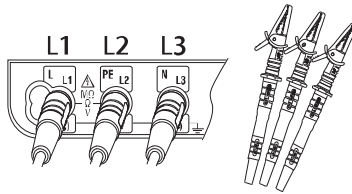

Fig. 46
- ▲ If earth resistance of auxiliary earth spikes is too large, it may result in inaccurate measurement. Make sure to stick the auxiliary earth spike and H(C) into the moist part of the earth carefully, and ensure sufficient connections between the respective connections. High auxiliary earth resistance may exist if "RS Hi" or "RH Hi" is displayed during measurements.
2. Insert the Test Leads into the instrument. (Fig.46)